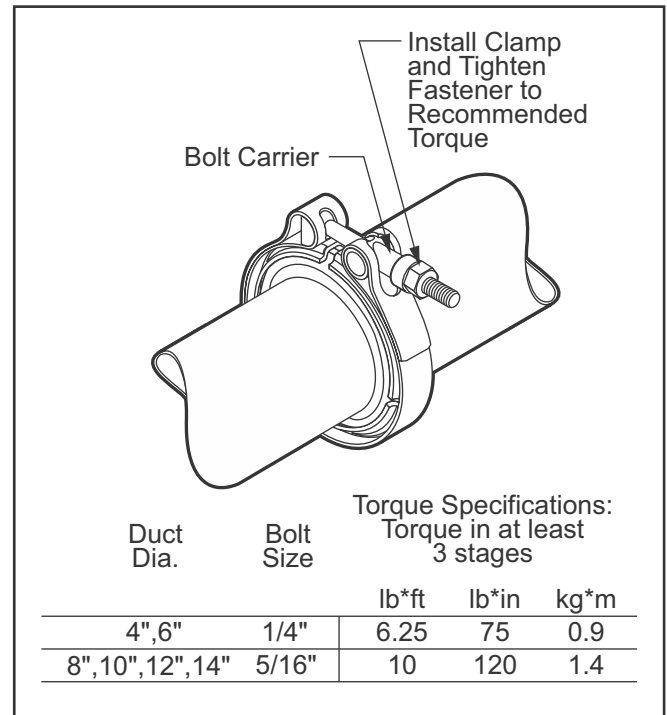

Fig. 15: Hardware size and torque specifications
5. Torque Bolt: When satisfied with the alignment, tighten the clamp bolt to the specified torque with a calibrated torque wrench. (Fig. 15)